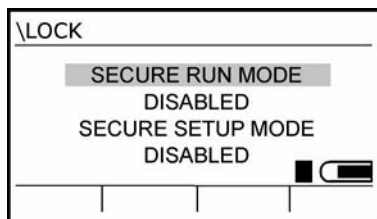

Figure 7–1: Security Control display
1. In the Start display, press the **LOCK** softkey. The Security Control display appears (Figure 7–1). The current status of Secure Run Mode is given below the words, **SECURE RUN MODE**, in the display.